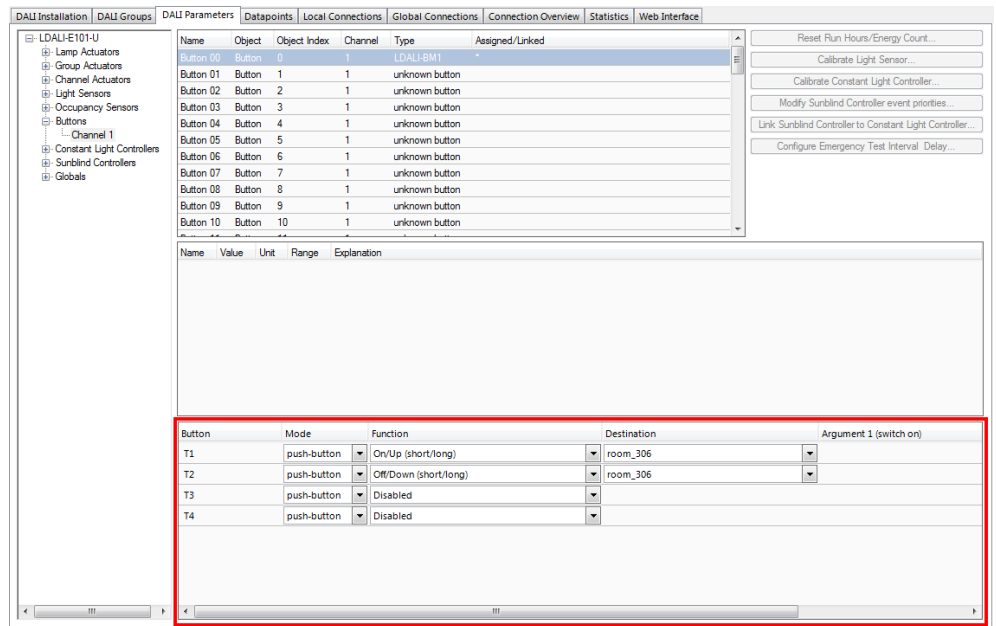

Figure 33: Parameterize DALI button functions.
1. Stay on the **DALI Parameters** tab and select the button object to which you have assigned your DALI button as shown in Figure 33.